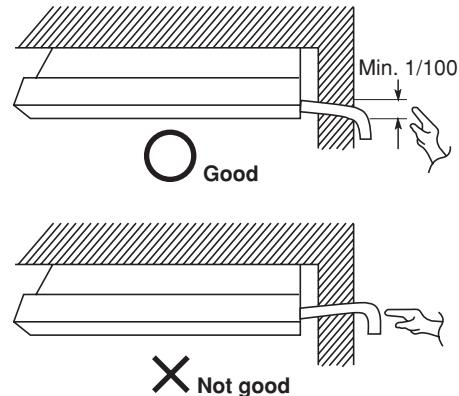

Fig. 3-95
- Connect the drain piping so that it slopes downward from the unit to the outside. (Fig. 3-95)